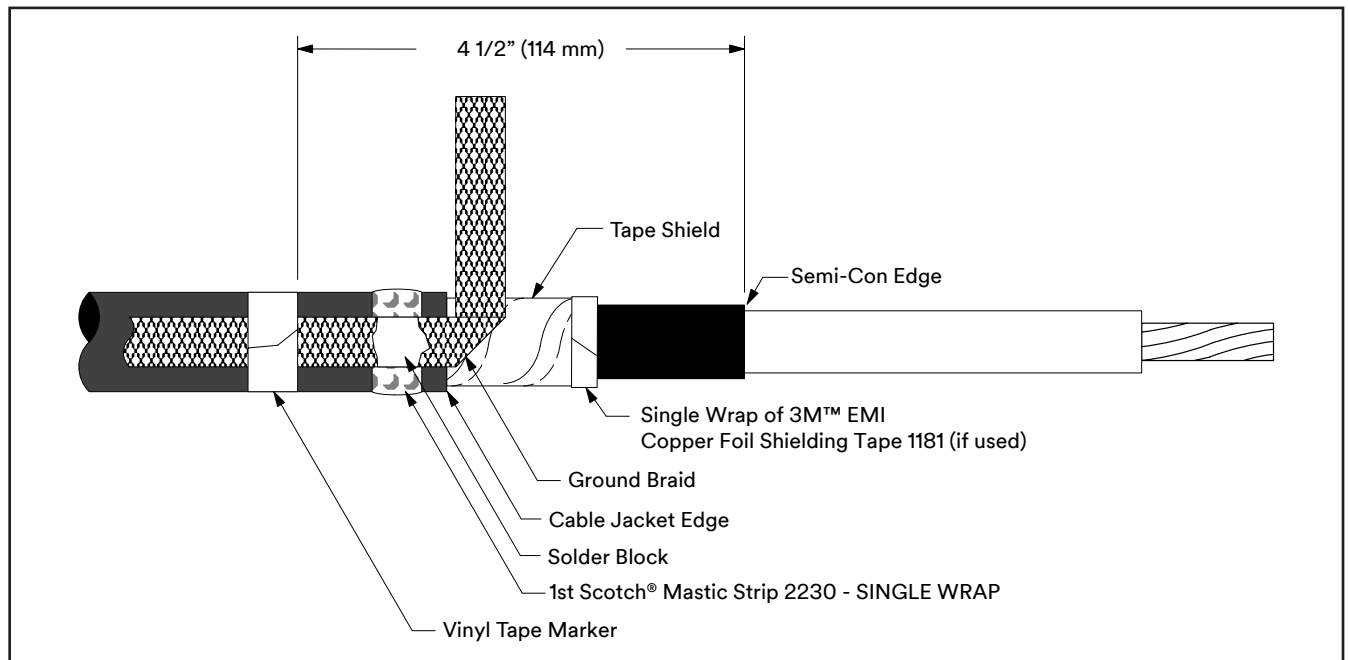

Figure 3
3.2 Position pre-formed ground braid with short tail over tape shield directly adjacent to cable jacket cut edge. PLEASE NOTE: The ground braid needs to make full contact with the metallic tape shield. Position long tail of ground braid, extending over cable jacket with solder block over mastic strip (Figure 3). Secure ground braid to cable jacket **4 1/2" (114 mm)** from cable semi-con edge using vinyl tape (see NOTE and Figure 3).